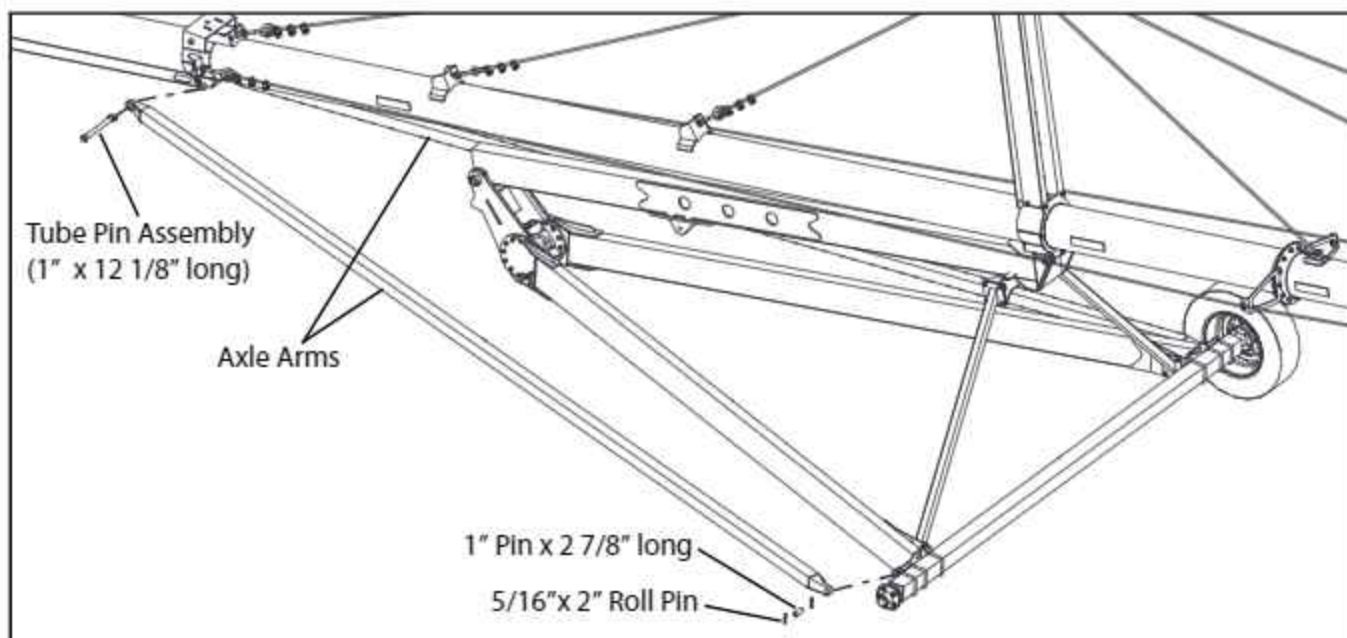

FIG. 3-21. Attaching the Axle Arms
4. Apply a thin layer of grease to the 1" dia x 2 7/8" pins. Attach the Axle Arms to the lugs welded to the Axle using the pins. See Fig. 3-21. Secure each pin in place using two 5/16"x 2" roll pins.